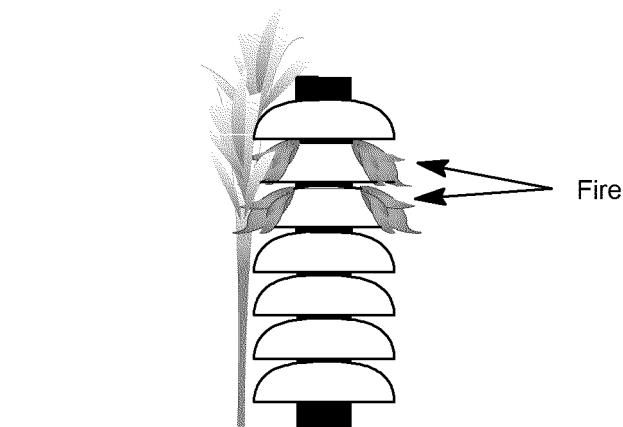

Figure 5-7
- C. In Figure 5-7 below, the angle is too great. The water stream catches the outside edge of each skirt or bell but does not fully impact the center of the insulator. This moistens the contamination but does not thoroughly clean the insulator.